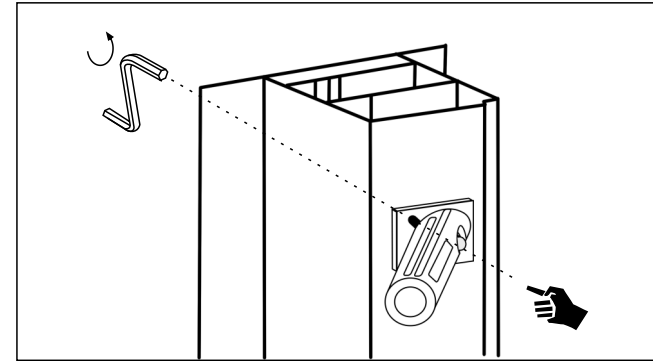

Figure 38
3. Tighten the tightening screw (figure 38).